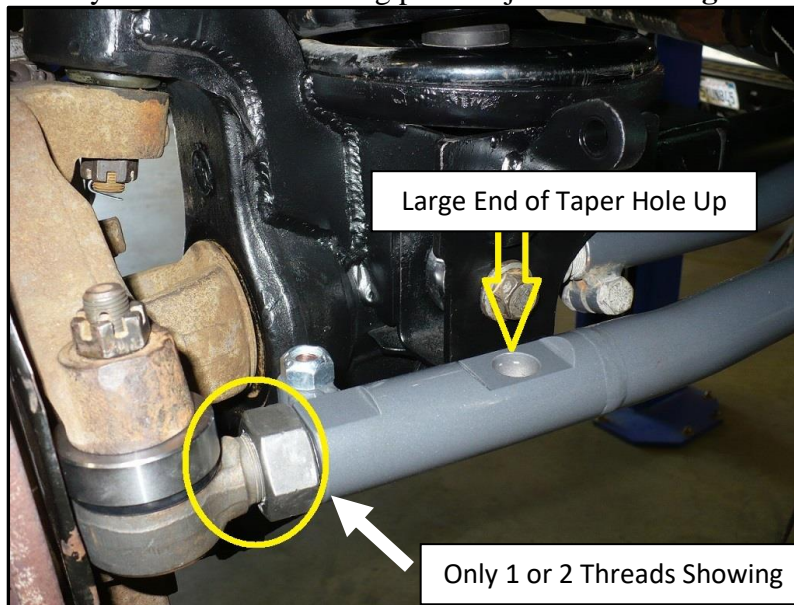

Figure 2. Tie Rod End Shown Threaded in with 1 or 2 Threads Showing
- 6) On the new Synergy tie rod, adjust the tie rod end on the tapered hole side of the tie rod so that it is all the way in with only a thread or 2 showing past the jam nut. See **Figure 2**.